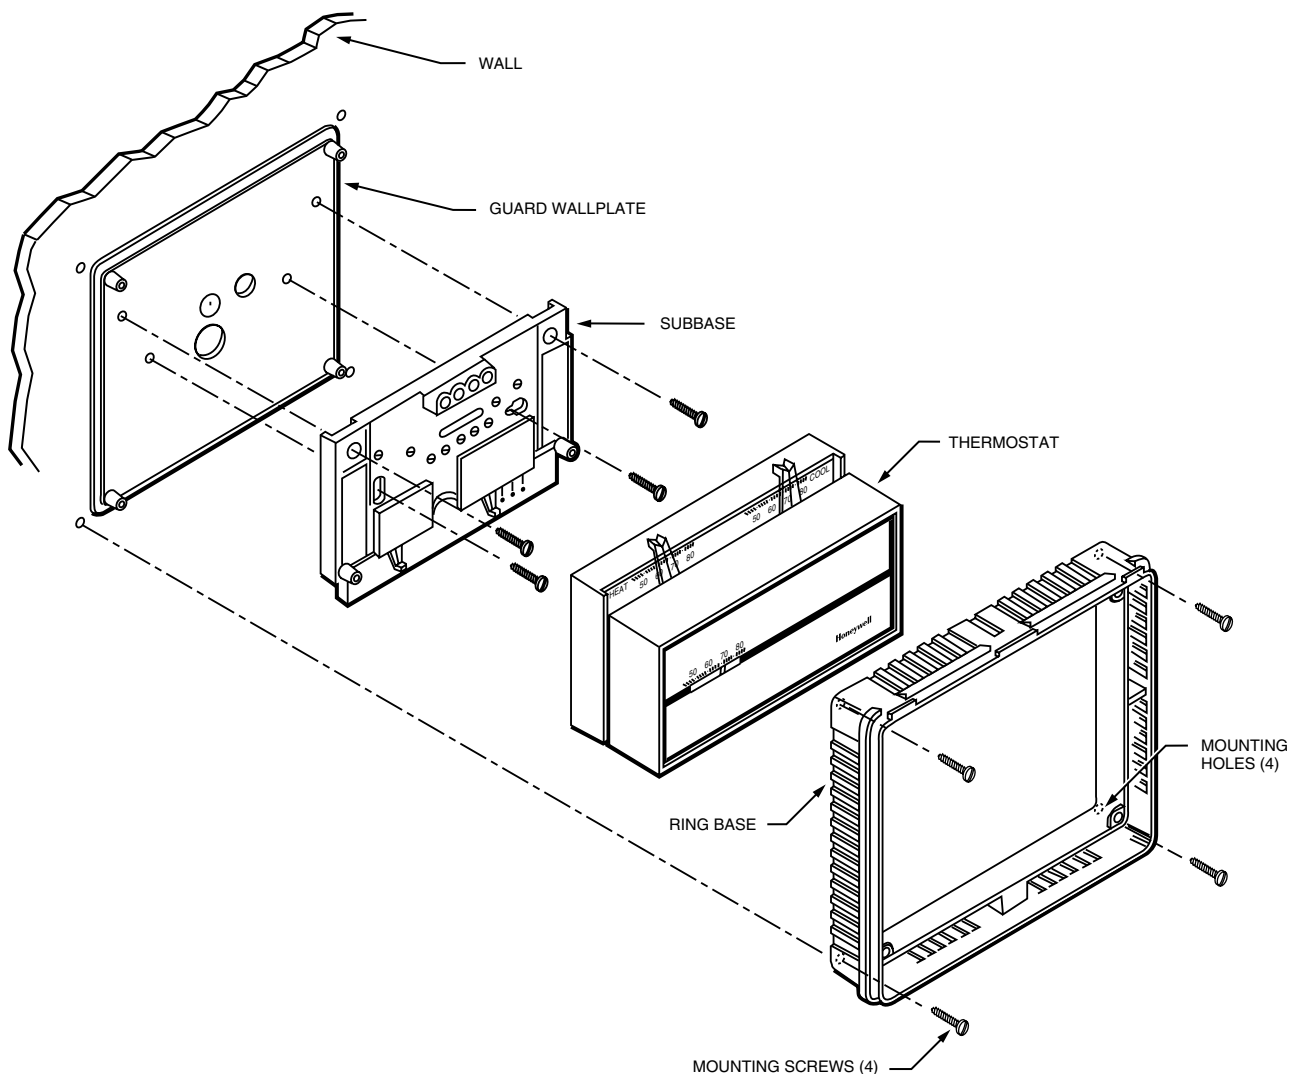

Fig. 10. Mount guard wallplate and ring base on thermostat with front-wired subbase or wallplate.
Wall Mounting Front-wired Subbase (Fig. 10)
- ❹ Mount the thermostat subbase (or wallplate) and the guard wallplate to the wall using the 1-1/4 in. sheet metal screws provided with the thermostat. The guard wallplate must be placed between the thermostat subbase (or wallplate) and the wall. See Fig. 10.
- ❺ Wire the thermostat subbase (or wallplate). Refer to the installation instructions provided with the thermostat.
- ❻ Mount the thermostat on the subbase (or wallplate) and place the thermostat cover on the thermostat.
- ❼ Mount the guard ring base over the thermostat, subbase (wallplate) and guard wallplate.
- ❽ Attach the ring base using four no. 6 sheet metal screws or four anchors and screws (provided).